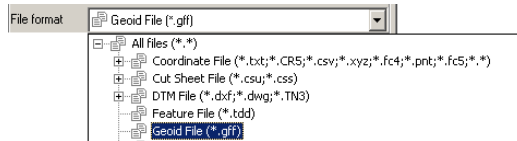

Figure 3-80. Geoid File Format
- Select the File format (Figure 3-80).